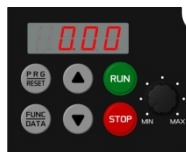

Figure 4.2 Display of the LED Monitor
- (1) Check that the LED monitor displays *00 (indicating at the frequency command is 0 Hz) that is blinking. (See Figure 4.2.)